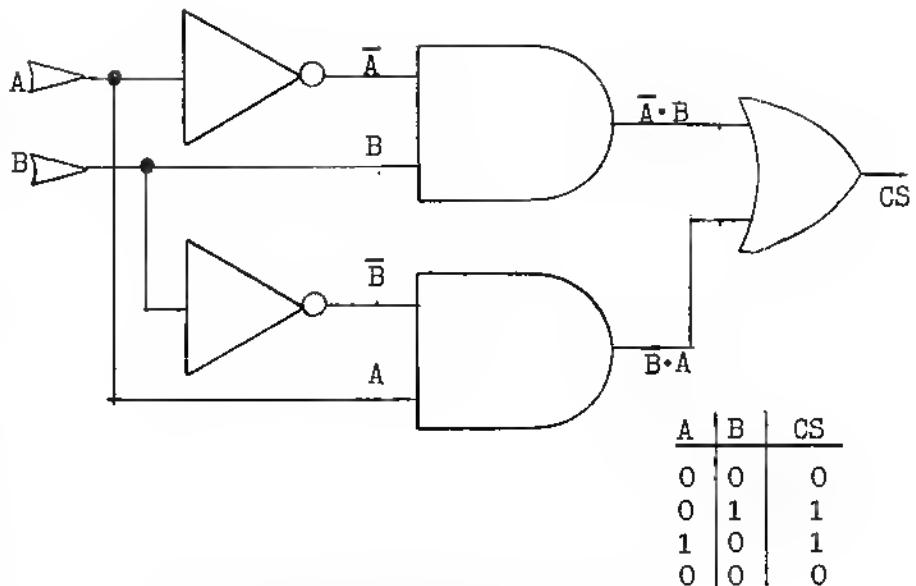

Figure 10: Truth Table and logic circuit for  $A \cdot B + A \cdot B = CS$
One other design study will illustrate several points. Suppose we require a logic 0 signal on a chip select pin when either of two other signals, call them  $A$  and  $B$ , are either both logic 0 or both logic 1. When  $A$  and  $B$  have opposite logic levels our chip select must be 1. This is clearly an artificial situation which originated in my mind and not in a computer interface circuit, but it illustrates a point. The truth table which fits the description demanded by the design is shown in Figure 10. Following the steps outlined earlier we find that the Boolean equation which implements the truth table is
the value of  $CS$  is the value of the least significant digit in the binary sum of  $A$  and  $B$ . Thus equation (5) is also part of an adding circuit. If  $A$  and  $B$  are ANDed the correct value for the "carry" part of the binary addition is also produced. Together these circuits form what is a "half adder." Figure 10 also gives the logic symbol implementation of equation (5).